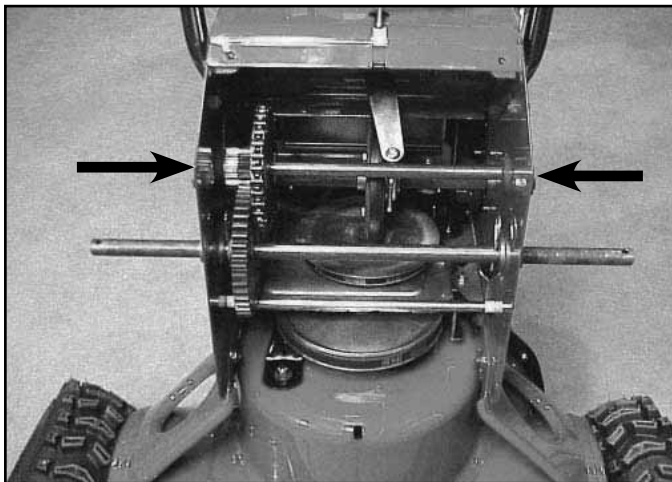

Fig 101
3. Remove the screw securing each end of the sprocket shaft (Fig. 101).